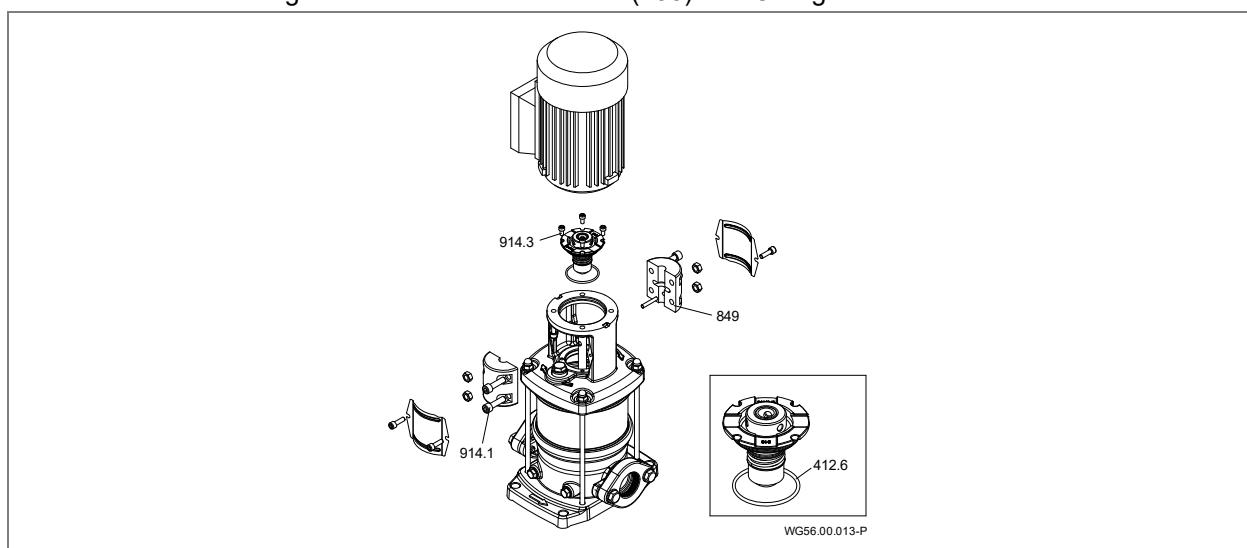

Fig. 17
See "Fig. 17" on page 31
- Observe figure 17.
- 2. Assemble the rotating unit of the mechanical seal (433) on the shaft sleeve.
- 3. Assemble the O-ring and the counter ring of the mechanical seal (433) in the discharge cover (471).
- 5. Slide the discharge cover (471) onto the shaft sleeve.
- 7. Slide the shaft sleeve onto the shaft (211) and push the discharge cover (471) into the drive lantern (161).